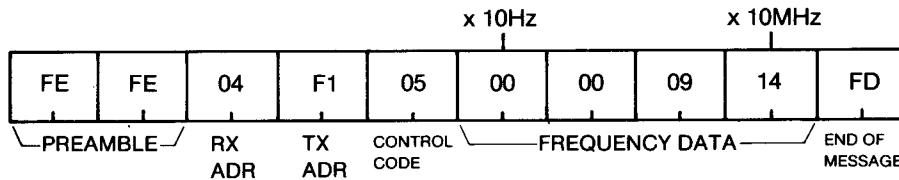
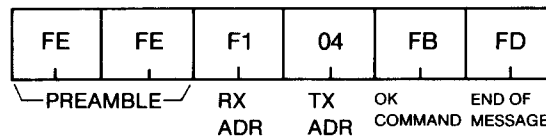

Fig. 18
Fig. 19
- (1) The controller can set the frequency of the IC-735.
- (2) When the controller sends the packet in Fig. 18, the IC-735 returns the packet shown in Fig. 19.